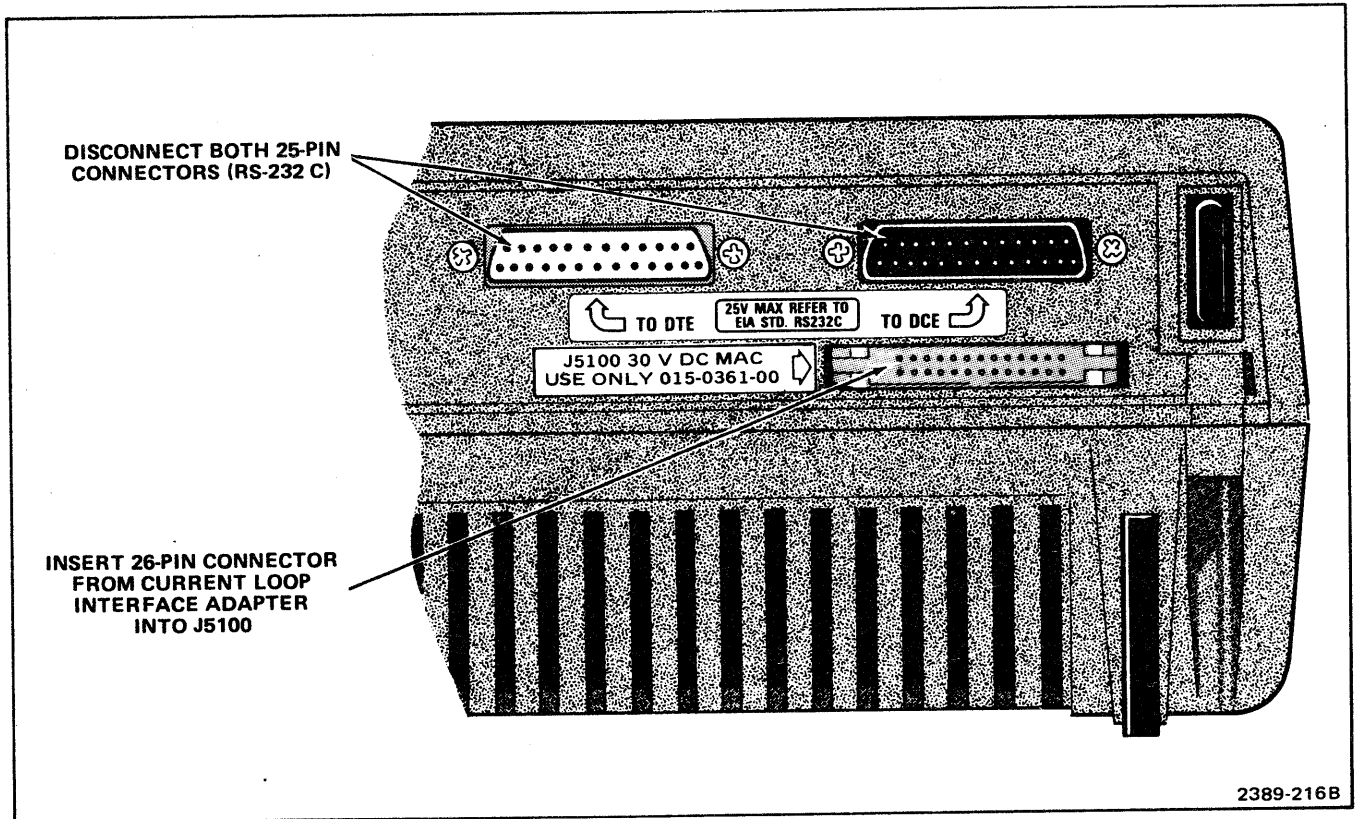

Figure Option 2-3. Partial 832 rear panel when equipped for Option 2.
1. Align connector plug P5100 at the end of the flat cable with connector jack J5100 on the rear panel of the 832 (see Figure Option 2-3). Note that the connector and plug are keyed to each other when properly aligned.